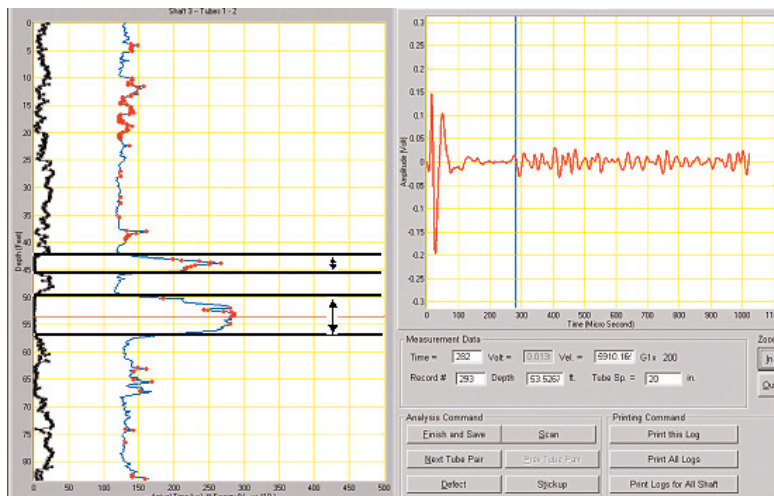

Figure 2. CSL results in a shaft with two defect zones
**Defects** such as contaminated, weak concrete and soil intrusions will result in delayed arrivals (slower velocity) or no arrivals in the defect zone. The signal energy is a secondary indicator of concrete quality with low energy indicating poorer quality concrete. Figure 2 shows an example of a shaft with 2 defect zones.